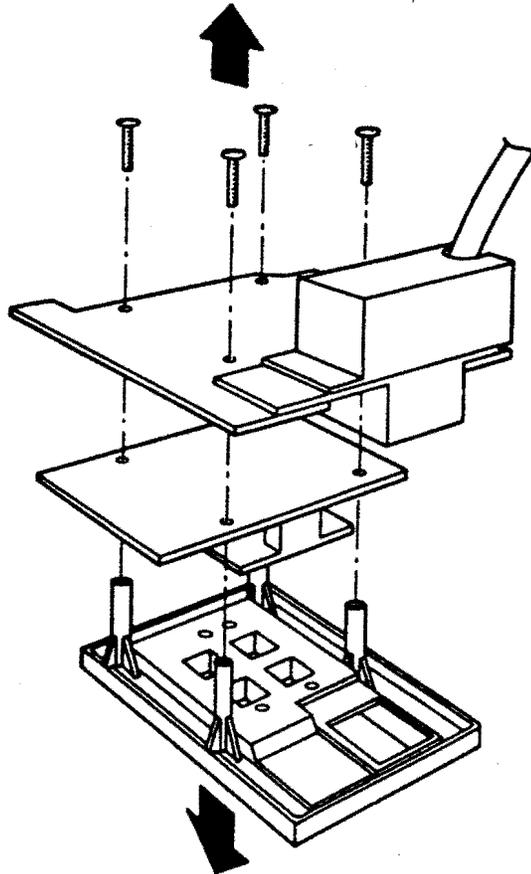

Figure 4-31: Front Control Panel Disassembly
6. Remove the four screws that hold the control panel assembly together (Figure 4-31).